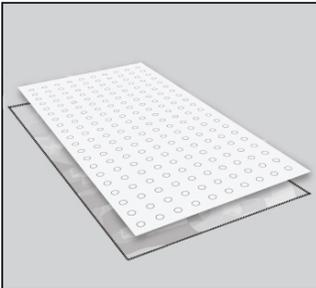

Figure 9: Position TopMark domed surface material.
1. *Position all of the domed sheets:* **Note: always wear the nitrile gloves provided while working with the sealer/bonder pastes.** Immediately after the bonder paste has been applied lay out all of the domed sheets needed to cover the area in which the sealer and bonder paste has been applied (see Figure 9). Hand-tack the domed sheet down into the bonder paste.